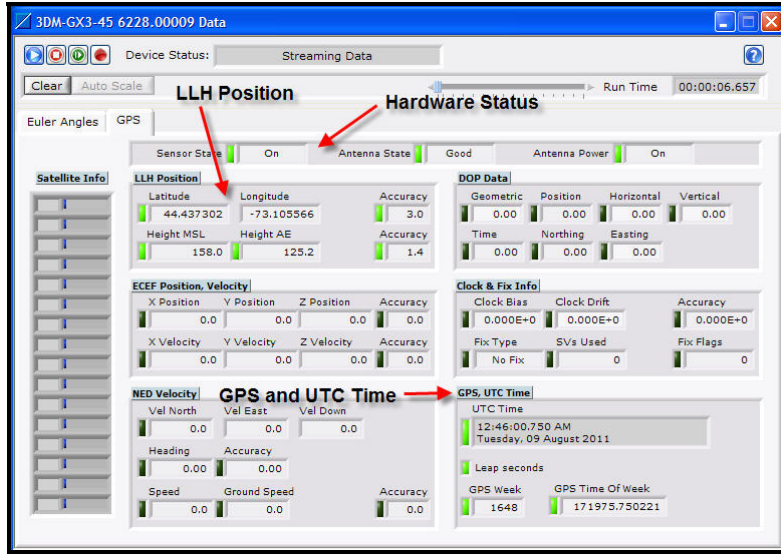

Figure 7. Data Monitor window
- Click the GPS tab and the GPS view will appear as shown in Figure 7.